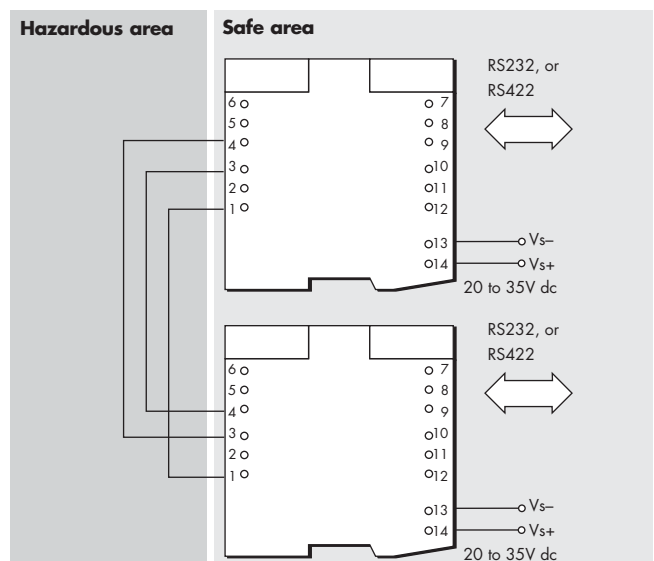

Figure 6.53: MTL5051 wiring diagram (across a hazardous area)
**Across hazardous areas:** For communication across hazardous areas MTL5051 devices are used in pairs to transfer bi-directional full-duplex data across hazardous areas, as shown in figure 6.53. Current switching is used to minimise the bandwidth-limiting effects of long cables.